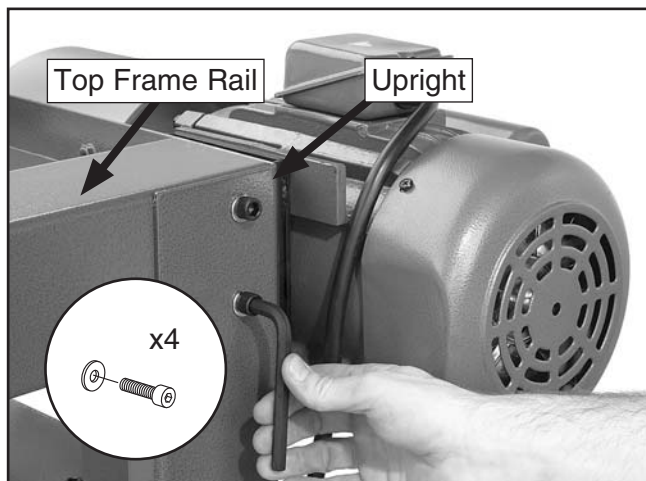

Figure 14. Top rail attachment.
5. Attach the top frame rail to the top of the uprights with (4) $\frac{3}{8}$ "-16 x $\frac{3}{4}$ " cap screws and (4) $\frac{3}{8}$ " lock washers, as shown in **Figure 14**. Do not yet fully tighten the cap screws.